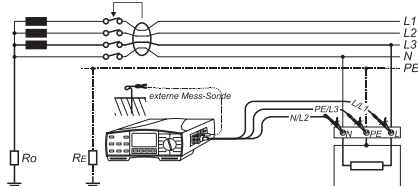

Figure 51a: Connection of test leads to 3-pole test lead and to external measurement probe
The instrument UNITEST EUROtest automatically recognises the measurement probe connected. For this purpose, connect connector C2/P (15) to measurement probe in accordance with Figure 51a.